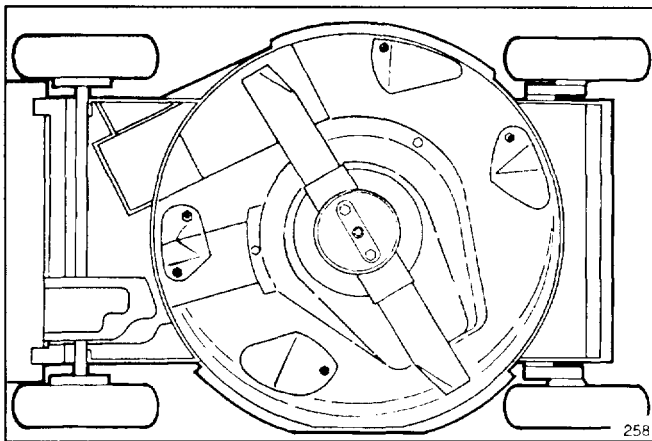

Figure 23
3. Tip mower on its left side (Fig. 23). Avoid rotating blade as starting problems may result.